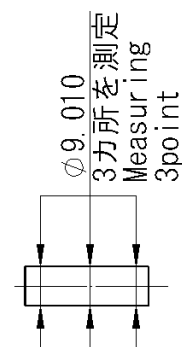

Fig. 12
④ Inspection and maintenance of the piston pin
- ii) Measure the outer diameter of the piston pin, both ends, center vertically and horizontally (total 6 points). Replace the piston pin in case the measured diameter is less than $\phi 9.010\text{mm}$. (Fig.12)